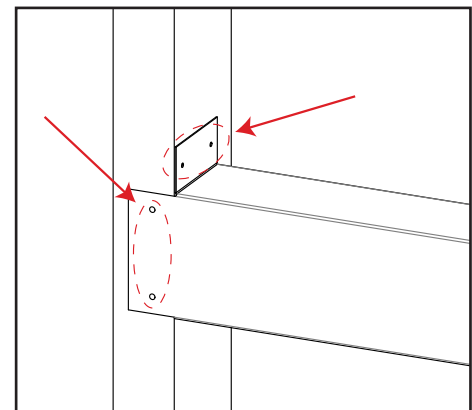

**Figure 15: Steel Stud Placement**
2. Place the steel stud onto the top standoffs and slide outwards until both ends make contact with the framing studs (see Figure 15).